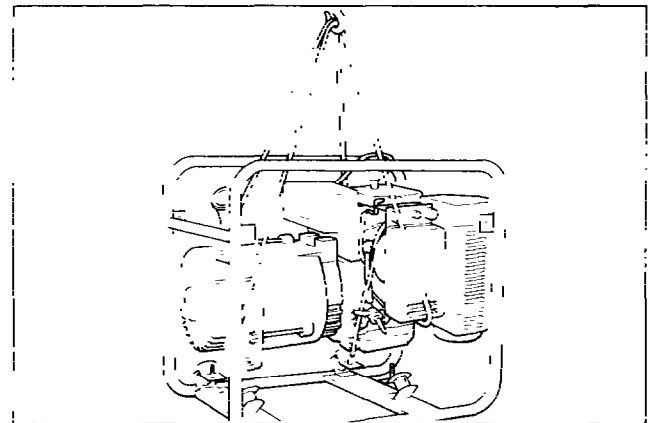

Fig. 10-9
(3) Remove the generator mounting nuts. Remove the nuts that fasten the engine and rubber mount and the nuts that fasten the generator and rubber mount. 8φ nut . . . 4 pcs.		13mm spanner
(4) Remove the generator. Lift the generator with a chain block, and remove the frame. (See Fig. 10-9.)	Be careful about the generator balance.
(5) Remove the rubber mount. Turn the frame on its side, and remove the nuts that fasten the rubber mounts to the bottom of the frame 8φ nut . . . 4 pcs.		13mm spanner or box spanner